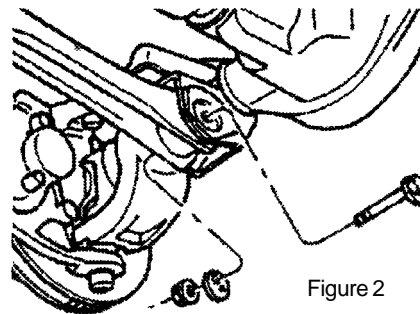

Figure 2
- b. Remove the lower control arm nut, cam, and cam bolts from the axle as shown in figure 2.